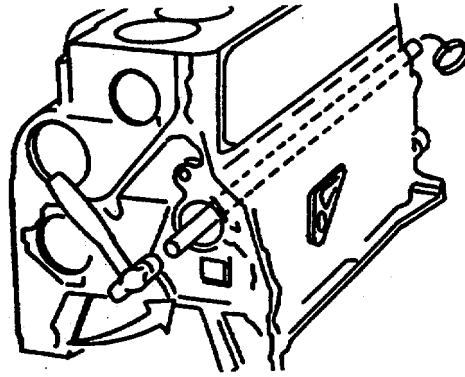

FIGURE 4-86. Driving Expansion Plugs.
- (2) Drive the expansion plug from the camshaft bore (FIGURE 4-86).